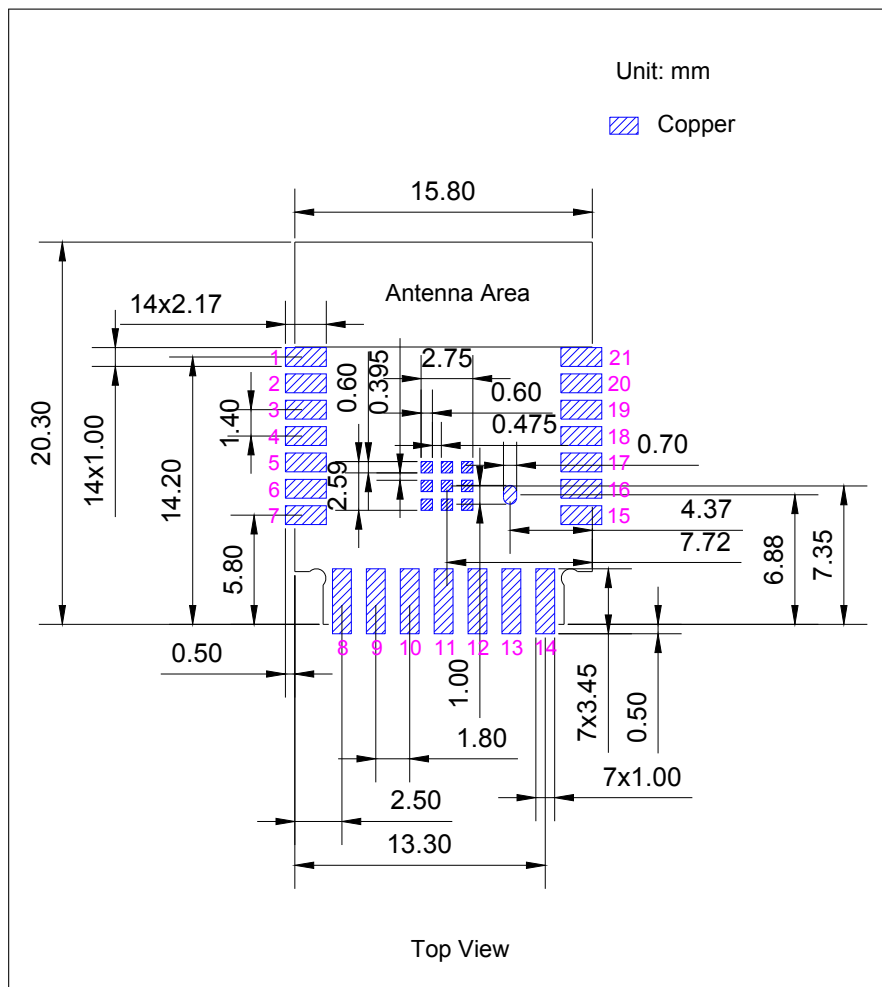
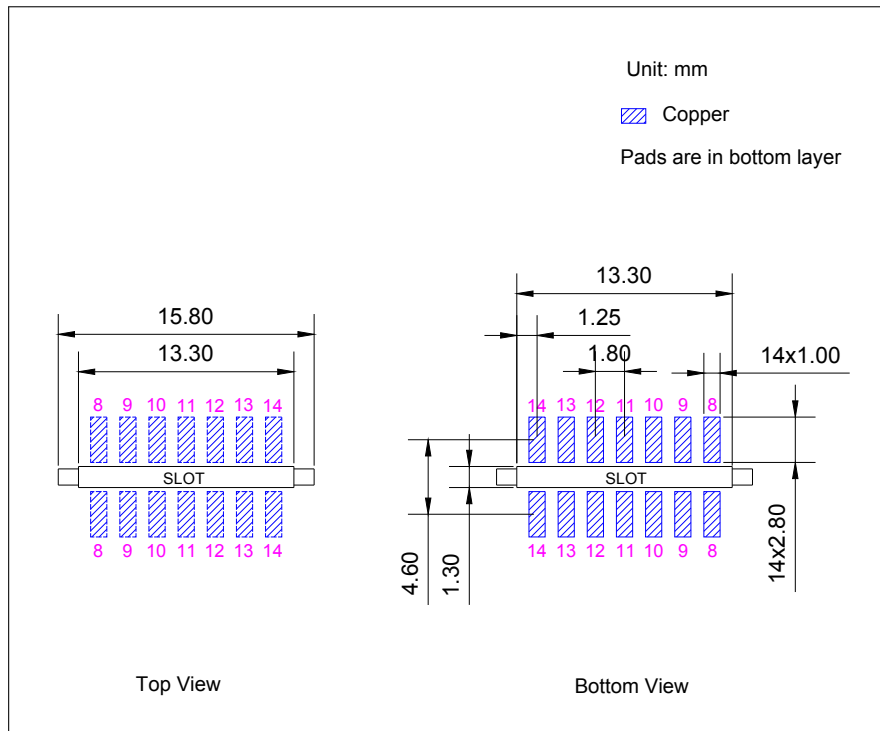

Figure 7: Recommended PCB Land Pattern for SMD Soldering
Figure 8: Recommended PCB Land Pattern for Vertical Module Soldering
- Figure for the recommended PCB land pattern with all the dimensions needed for PCB design. See Figure 7 *Recommended PCB Land Pattern for SMD Soldering* and Figure 8 *Recommended PCB Land Pattern for Vertical Module Soldering*.
- Source file of the recommended PCB land pattern to measure dimensions not covered in Figure 7 and Figure 8. You can view the source files for ESP8685-WROOM-06 with Autodesk Viewer.